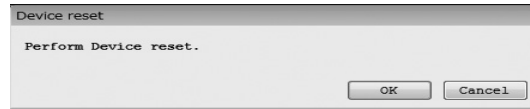

Fig.166
- ① Click "Maintenance (M)" on menu and select "Device reset".
- ② A window (Fig. 166) will appear.